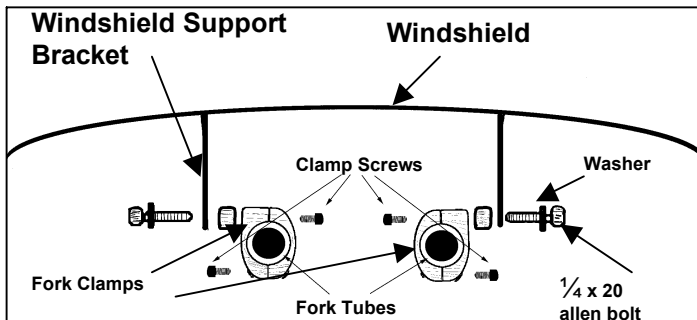

Figure 2
2. Loosely secure the windshield with the supplied 1/4 x 20 allen bolts, washers, and spacers (if required), according to the application chart. See **Figure 2**.